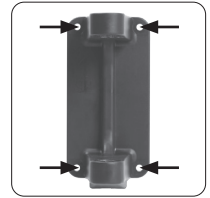

Fig. 1 Mounting Bracket
5. Drill 4 x M8 holes to match the holes located in the Mounting Bracket.(Fig. 1)